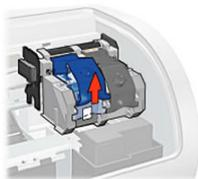

Fig. F5
2. Open the top cover and lift the print cartridge latch to the open position (figure F5).